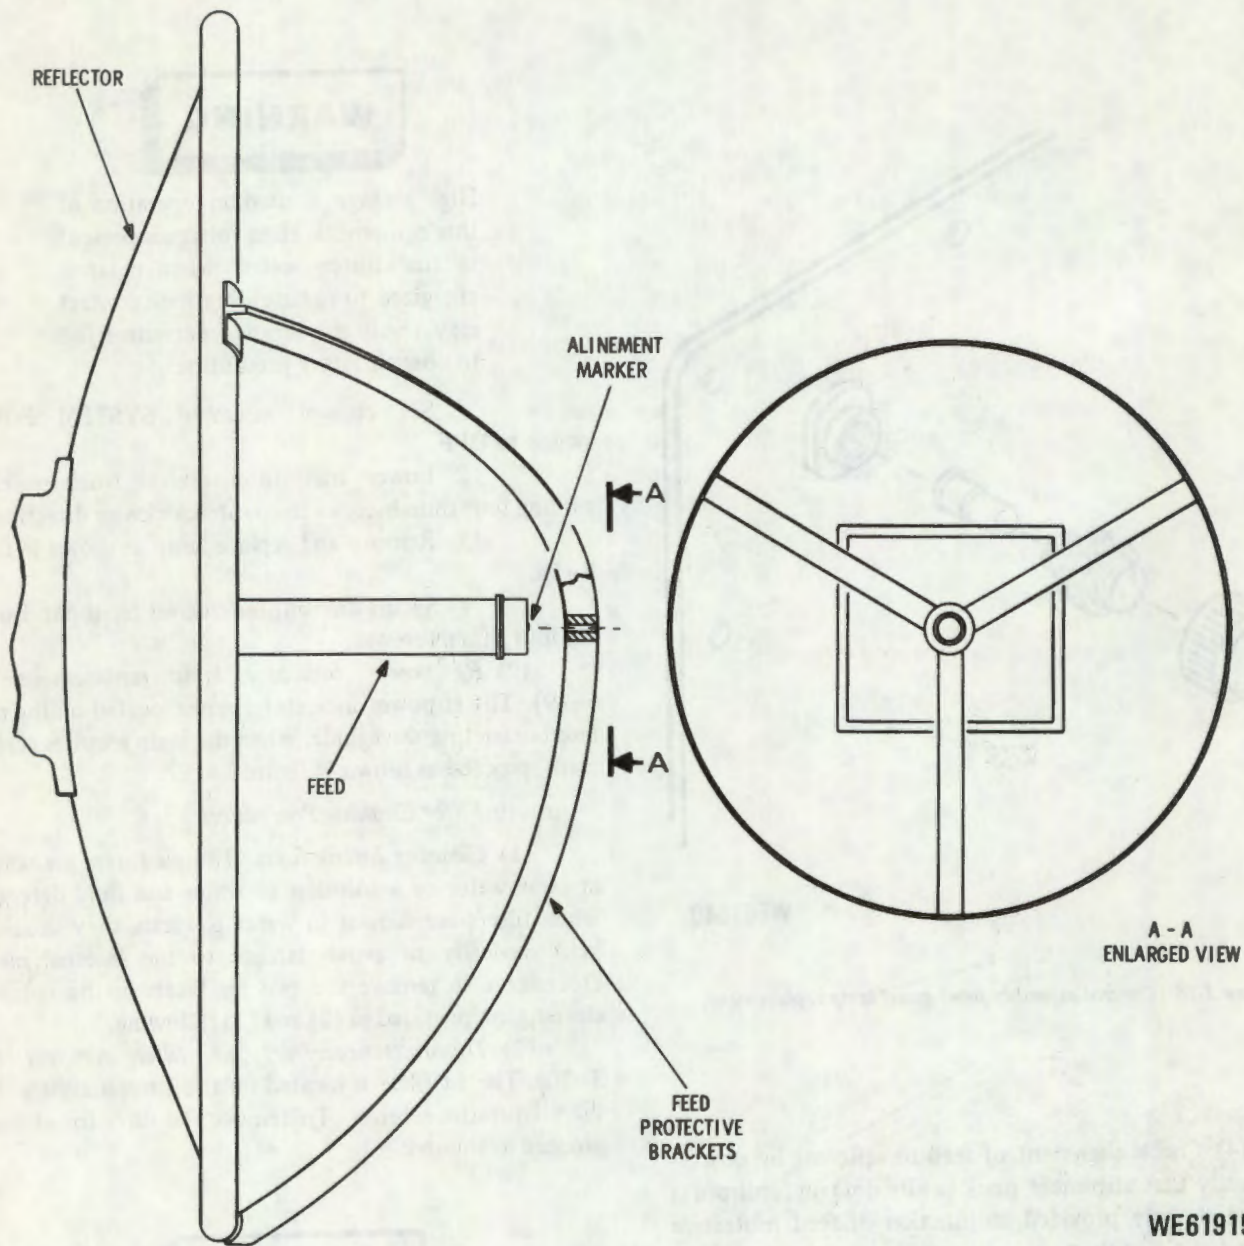

Figure 3-16. Reflector and feed assembly.
(4) Check alignment of feed to reflector by observing visually that alignment mark (white dot) on feedhorn is centered in hole provided at junction of feed protective brackets (fig. 3-16). Be sure your line of sight is centered in the hole when making this check.